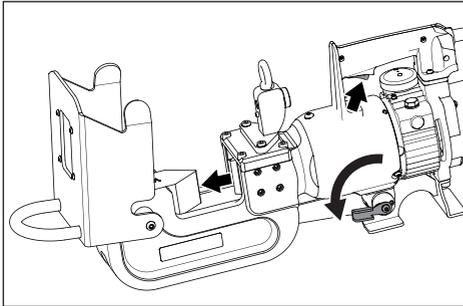

Figure 7, Advance Piston
- With the directional lever in position 1, press and hold the trigger to advance the piston and slide the moving blade forward. See Figure 7.
**⚠ WARNING** The cutter safety guard is shown in the open position in Figures 7 and 8 for illustration purposes only. Never operate the cutter with the safety guard open or removed.